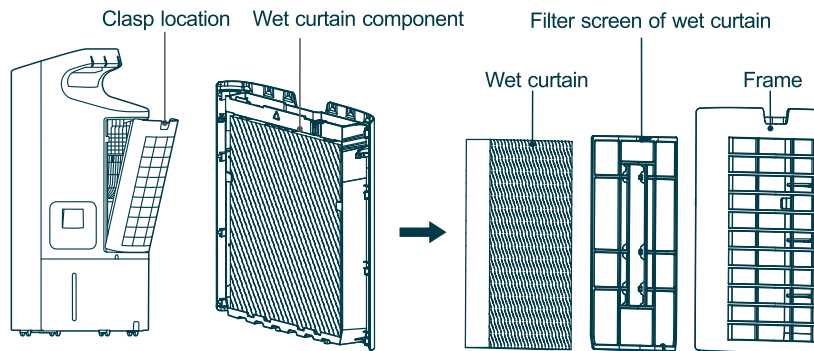

Fig.3
- 1) Take out the component of wet curtain through the clasp location of wet curtain frame. Break it from both sides of the wet curtain frame slightly from outward direction, then take out the wet curtain and its filter screen (Fig.3); wash the wet curtain with clean water, then dry it.